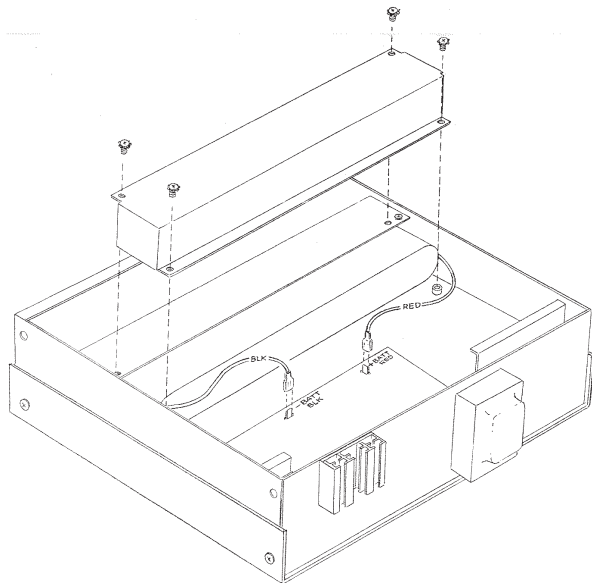

Figure 2
2. Remove battery cover by removing the four semi head screws. See Figure 2.
3. Remove battery-pack by unplugging both RED (+) and BLK (-) leads from the PC board. See Figure 2.